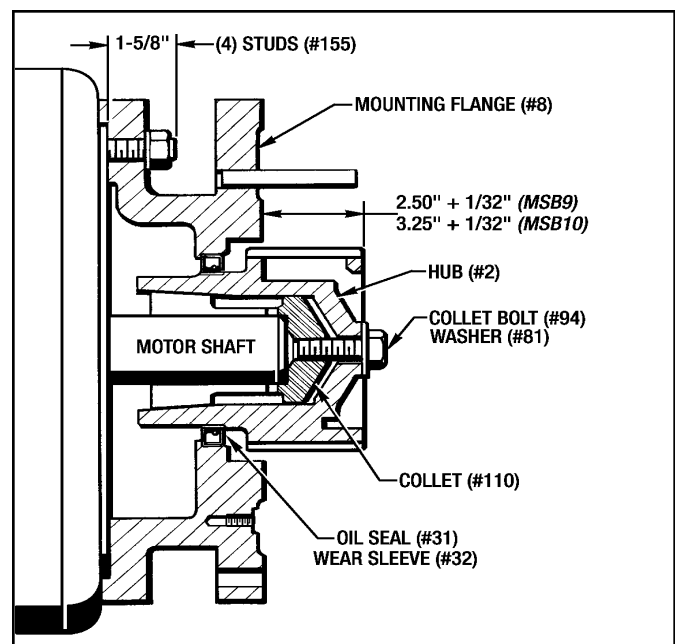

Figure 3.4 - Installing Mounting Flange (#8) and Positioning The Hub (#2) and Collet (#110) on The Motor Shaft
2. Remove the End Housing (#9) from the Mounting Flange (#8) by taking off the (8) Hex Nuts (#261) and (8) Lockwashers (#127). Pull the End Housing (#9) away from the Mounting Flange (#8).
3. Remove the Brake Stack (#12) from the Mounting Flange (#8) by unscrewing the (2) Shoulder Bolts in the Drive Plates. The (2) Guide Pins (#12) remain.
4. Set the Brake Stack (#12) on a work bench with the threads of the (2) Shoulder Bolts pointing up. There is a Retaining Ring on each Shoulder Bolt. Remove both of them and discard them.
**IMPORTANT - Make sure you keep the Brake Stack in exactly the same order as they were assembled. There are (2) Separator Springs between each Drive Plate. Be careful not to lose track of them.**
5. Screw the (4) Studs (#155) in to the motor mounting face. Leave approximately 1-5/8" of exposed thread from the motor face. **Use Blue Loctite #242.**
6. Attach the Mounting Flange (#8) to the motor mounting face with the (4) Hex Nuts (#392) and (4) Lockwashers (#168). **Torque to 120 Lb. Ft.**
9. Position the Hub (#2) as shown in *Figure 3.4*. Measure the distance from the end of the Hub (#2) to the face of the Mounting Flange (#8). This distance should be **2.50" + 1/32"** for the MSB9 and **3.25" + 1/32"** for the MSB10. Apply **Blue Loctite #242** and tighten the Collet Locking Bolt (#94) enough to take out excess clearance in the Hub/Collet Assembly but still able to move it.